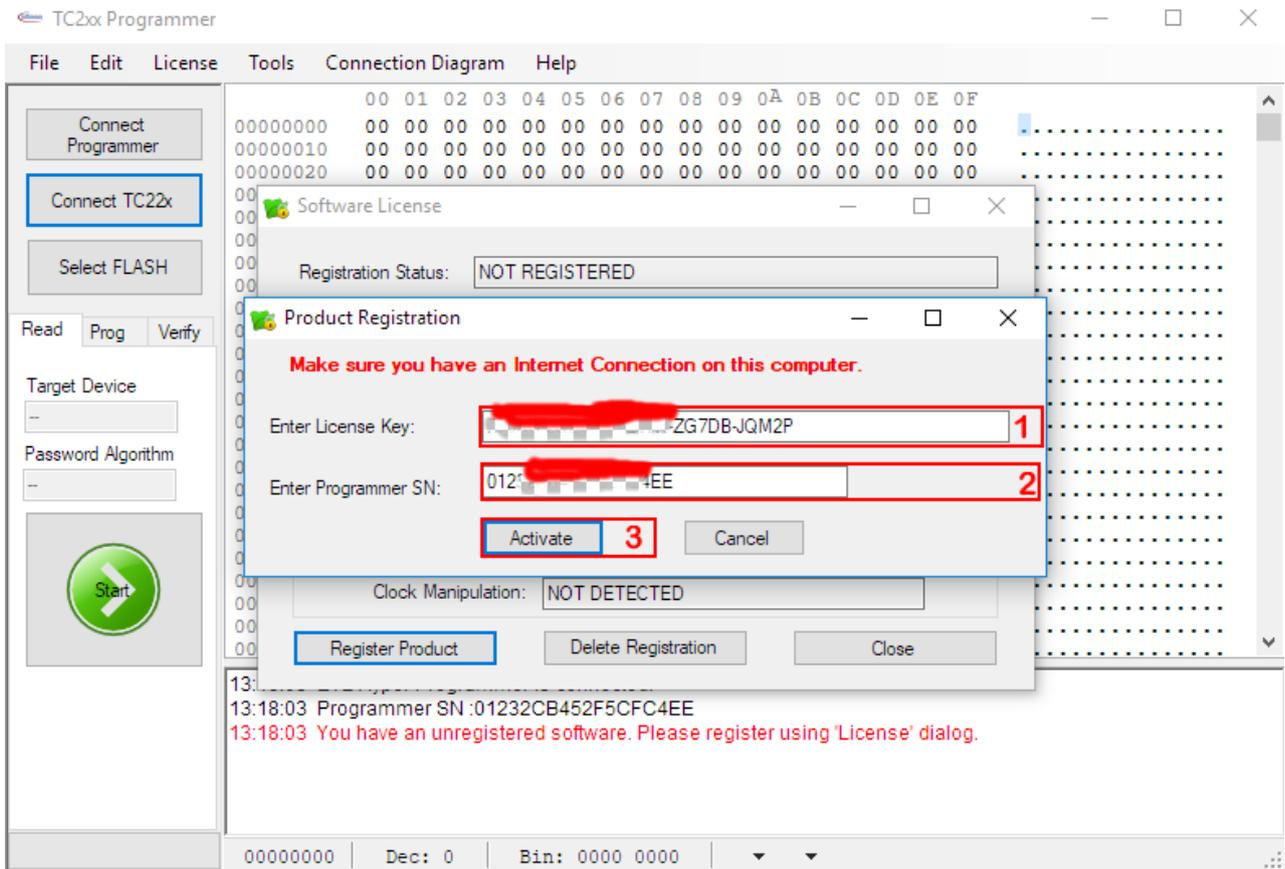

Figure 14 TC2xx-Programmer software activation
- Enter the Programmer Serial Number (Figure 14).